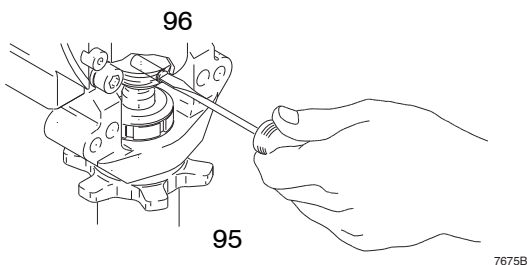

FIG. 1
3. Unscrew suction tube (12) from pump, hold wrench on pump intake valve (A) to keep pump from loosening.
4. Disconnect pump outlet hose (61) from displacement pump outlet nipple (6).
5. Fig. 1. Use screwdriver to push up retaining spring (95) at top of pump. Push out pin (96).